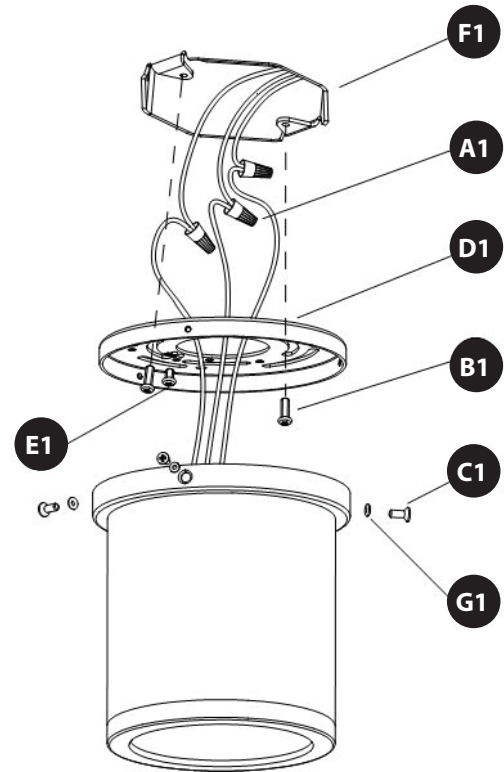

FIG.2
CONNECTING THE WIRES (Fig. 2)
4. Connect the electrical wires as shown in Fig. 2, making sure that all wire connectors (A1) are secured. If your outlet box has a green or bare copper ground wire, connect the fixture's ground wire to it. Otherwise, connect the fixture's ground wire directly to the backplate (D1) using the green screw (E1) provided. After wires are connected, tuck them carefully inside the junction box.